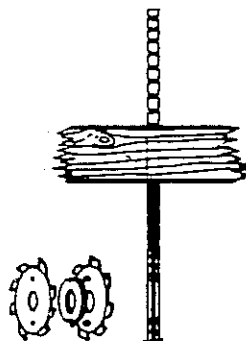

Fig.25
- 2) Double cutter by inserting shims between the two elements (fig.25)